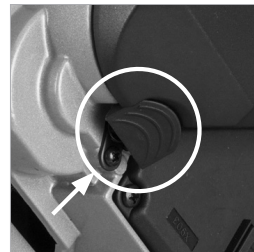

Fig. 40
- Press the black arbor lock button to lock the arbor. (Fig. 40)